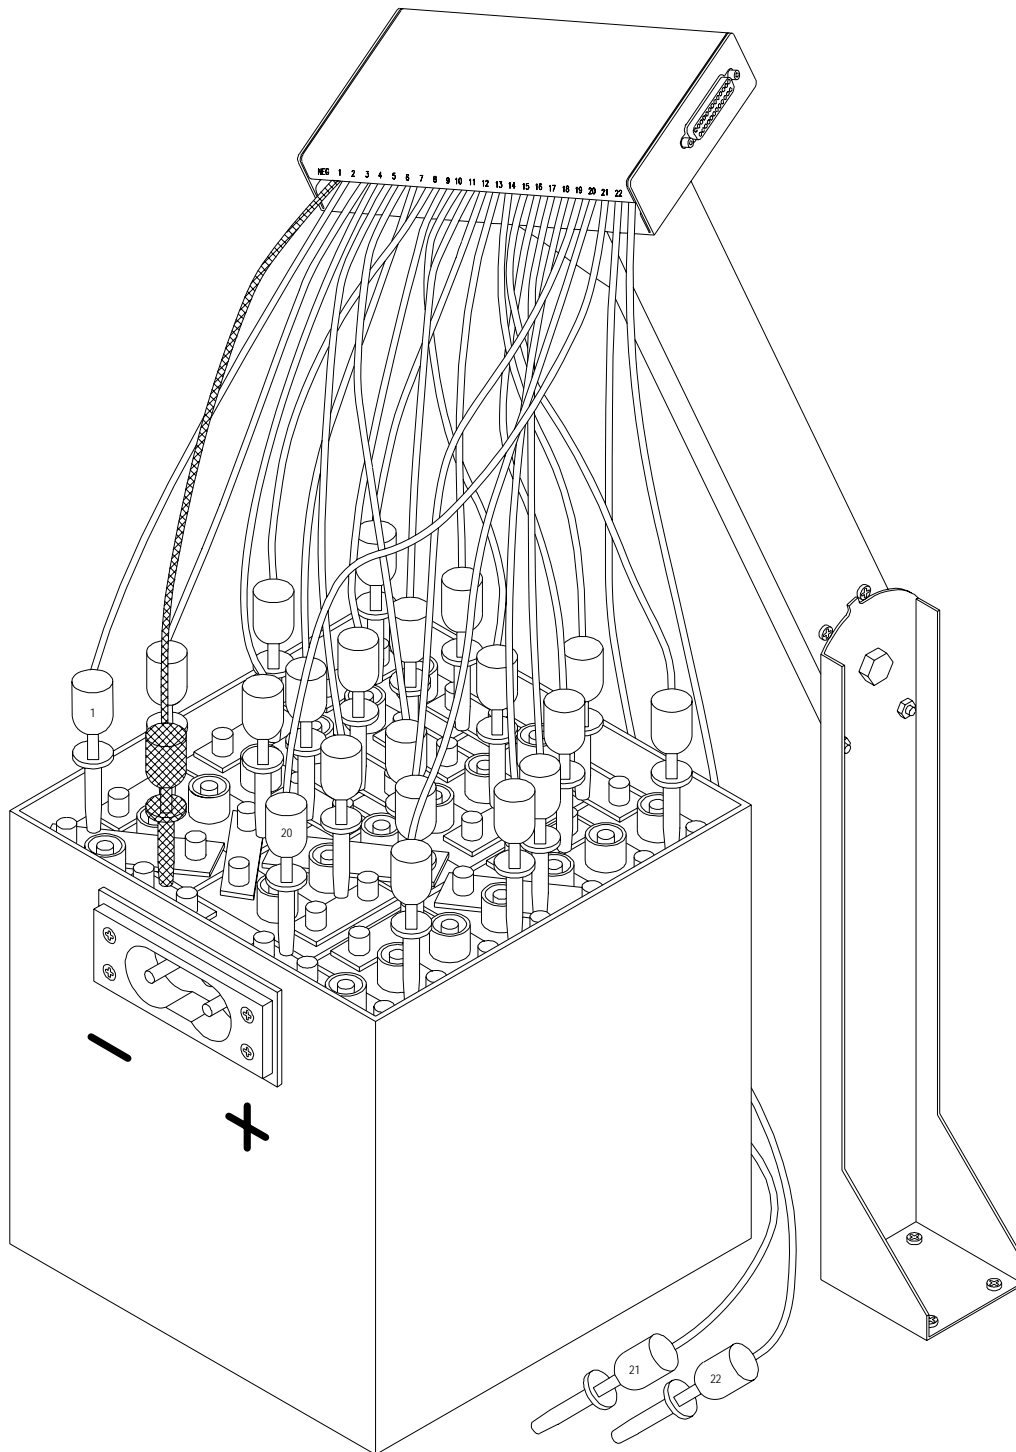

Figure 1: Cell Harness Arm Assembly (5.5) And Probe Sequence (6.3.3).
- 5.5 CELL HARNESS ARM: Refer to Figure 1 (pg. 14) before assembling. Place the plastic washer between the halves of the arm. Fasten the arm together with the nut and bolt as shown. Mount the arm with four screws on a workbench (stationary) or on a board large enough to support a battery (mobile). Make sure the placement of the arm does not interfere with other equipment.
- 6.3.3 Connect the DataFX cell probes to the battery: (See Figure 1)